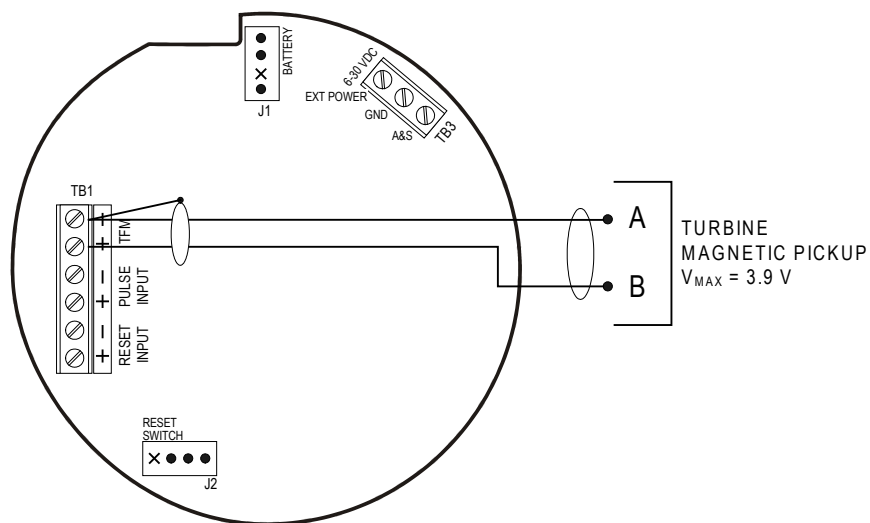

Figure 2.5—Flowmeter input wiring
6. Connect the flowmeter or pulse input wiring to terminal block TB1. See Figures 2.5 and 2.6, page 15.